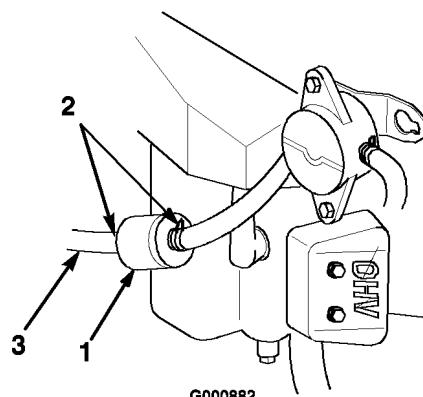

Figure 35
- Loosen the hose clamp at the fuel filter and slide it up the fuel line away from the fuel filter (Figure 35).
- Pull the fuel line off of the fuel filter (Figure 35).
- Squeeze the ends of the hose clamps together and slide them away from the filter (Figure 35).
- Install a new filter and move the hose clamps close to the filter (Figure 35).